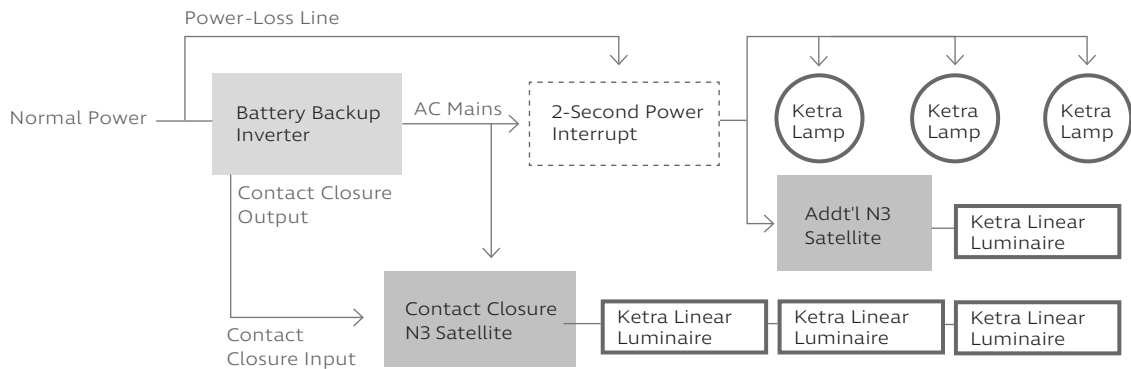

fig. 4
- Any additional N3 Satellites used for emergency lighting should be downstream of the 2-Second Power Interrupt device, as shown in fig. 4.